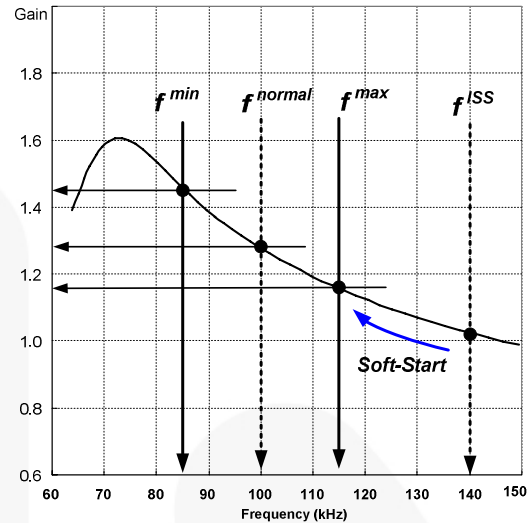

Figure 17. Resonant Converter Typical Gain Curve
**3. Frequency Setting:** Figure 17 shows the typical voltage gain curve of a resonant converter, where the gain is inversely proportional to the switching frequency in the ZVS region. The output voltage can be regulated by modulating the switching frequency. Figure 18 shows the typical circuit configuration for the  $R_T$  pin, where the opto-coupler transistor is connected to the  $R_T$  pin to modulate the switching frequency.